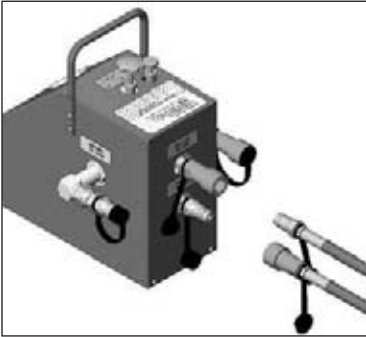

Figure 4a
1. Clean all hydraulic couplings before making connections using a clean dry cloth. Connect hydraulic hoses from rear of foot control valve to hydraulic motor. See Fig. 4a and 4b. Connect male coupling on the hose to the corresponding female coupling on the foot valve and motor and the female coupling on the hose to the corresponding male coupling on the foot valve and motor.